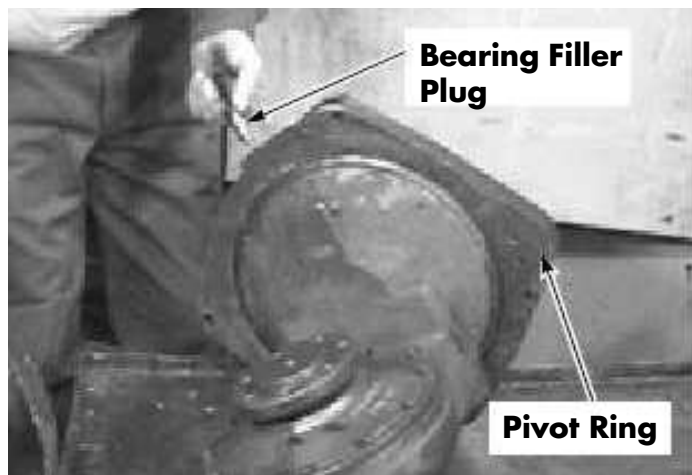

Figure 7-100. Grease Fitting and Filler Plug Removal
1. On the pivot ring, remove the grease fitting and the bearing filler plug. Inspect the bearing filler plug hole for uneven wear. See Figure 7-100.